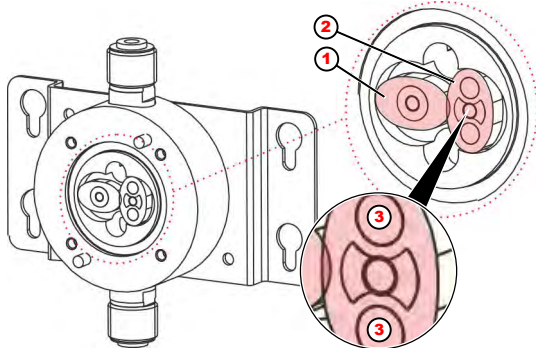

Fig. 22: Oval gear meter
The oval gear wheels must be inserted so that they are offset to each other by exactly 90° (Fig. 22, pos. 1 + pos. 2) .
1. After cleaning / replacing, insert the oval gear wheels so that they are offset to each other by 90° (Fig. 22, pos. 1 + pos. 2) .
The oval gear wheel with the welded magnets (Fig. 22, pos. 2) must be positioned under the sensor in the cover.